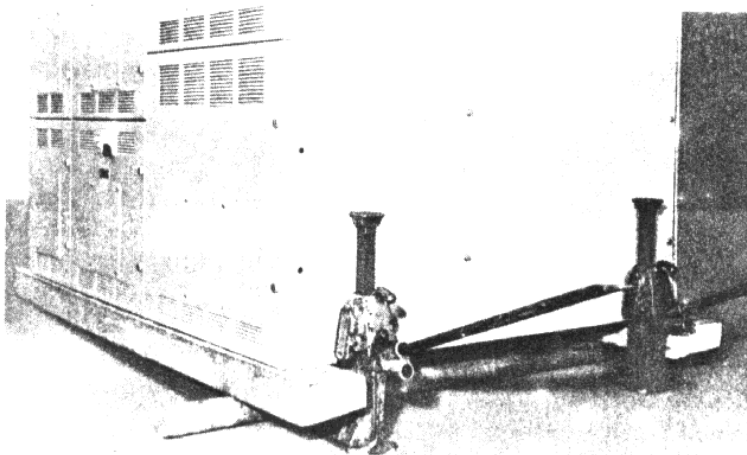

Fig. 1—Method of Raising Switchgear by Use of Jacks. Rollers in Place
1. After switchgear housings have been moved near site, raise the units by placing jacks under the switchgear housing near the front and rear corners as shown in Fig. 1.